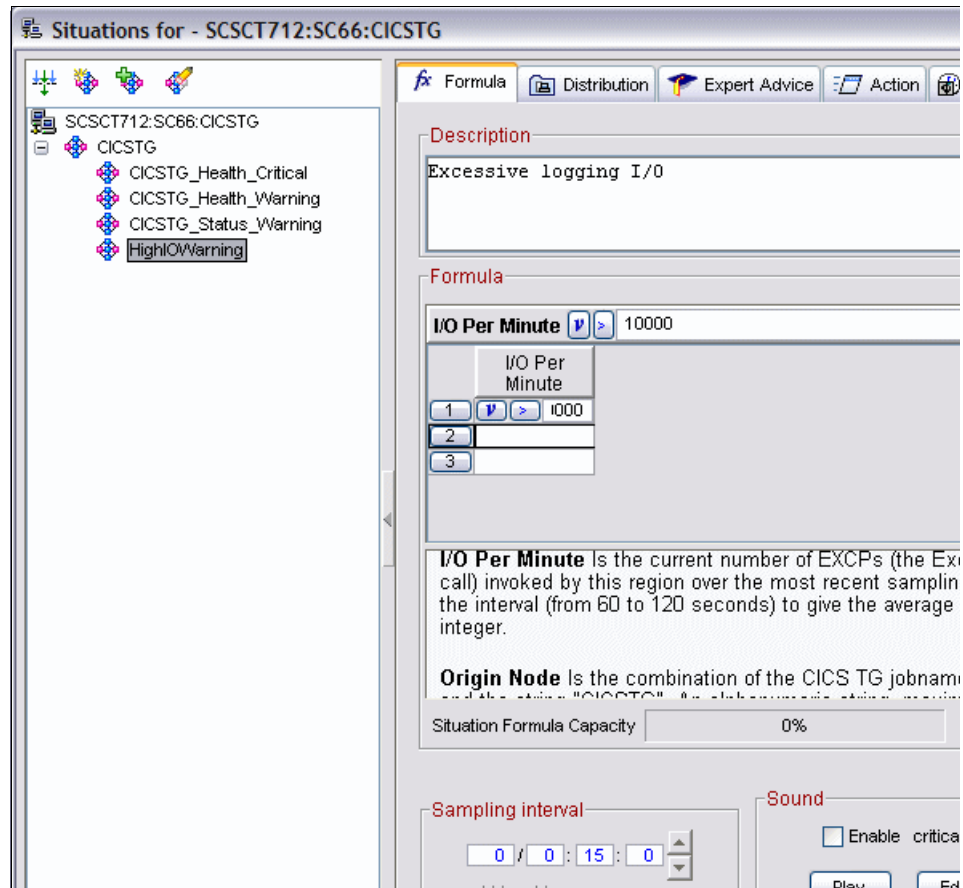

Figure 6-13 Situations formula window
7. The box shown in Figure 6-13 appears. This box allows you to create a rule to trigger the alert. Click **1** to create the first rule. Click the equals sign to get a selection of conditions that can be used. We selected greater than and entered 10,000. This meant that the trigger would occur if I/O per minute' was greater than 10,000.